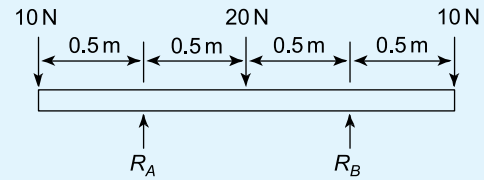

Figure 6.36
7. With reference to Figure 6.36, the reaction R_A is:
8. With reference to Figure 6.36, when moments are taken about R_A , the sum of the anticlockwise moments is:
9. With reference to Figure 6.36, when moments are taken about the right-hand end, the sum of the clockwise moments is:
10. With reference to Figure 6.36, which of the following statements is false?